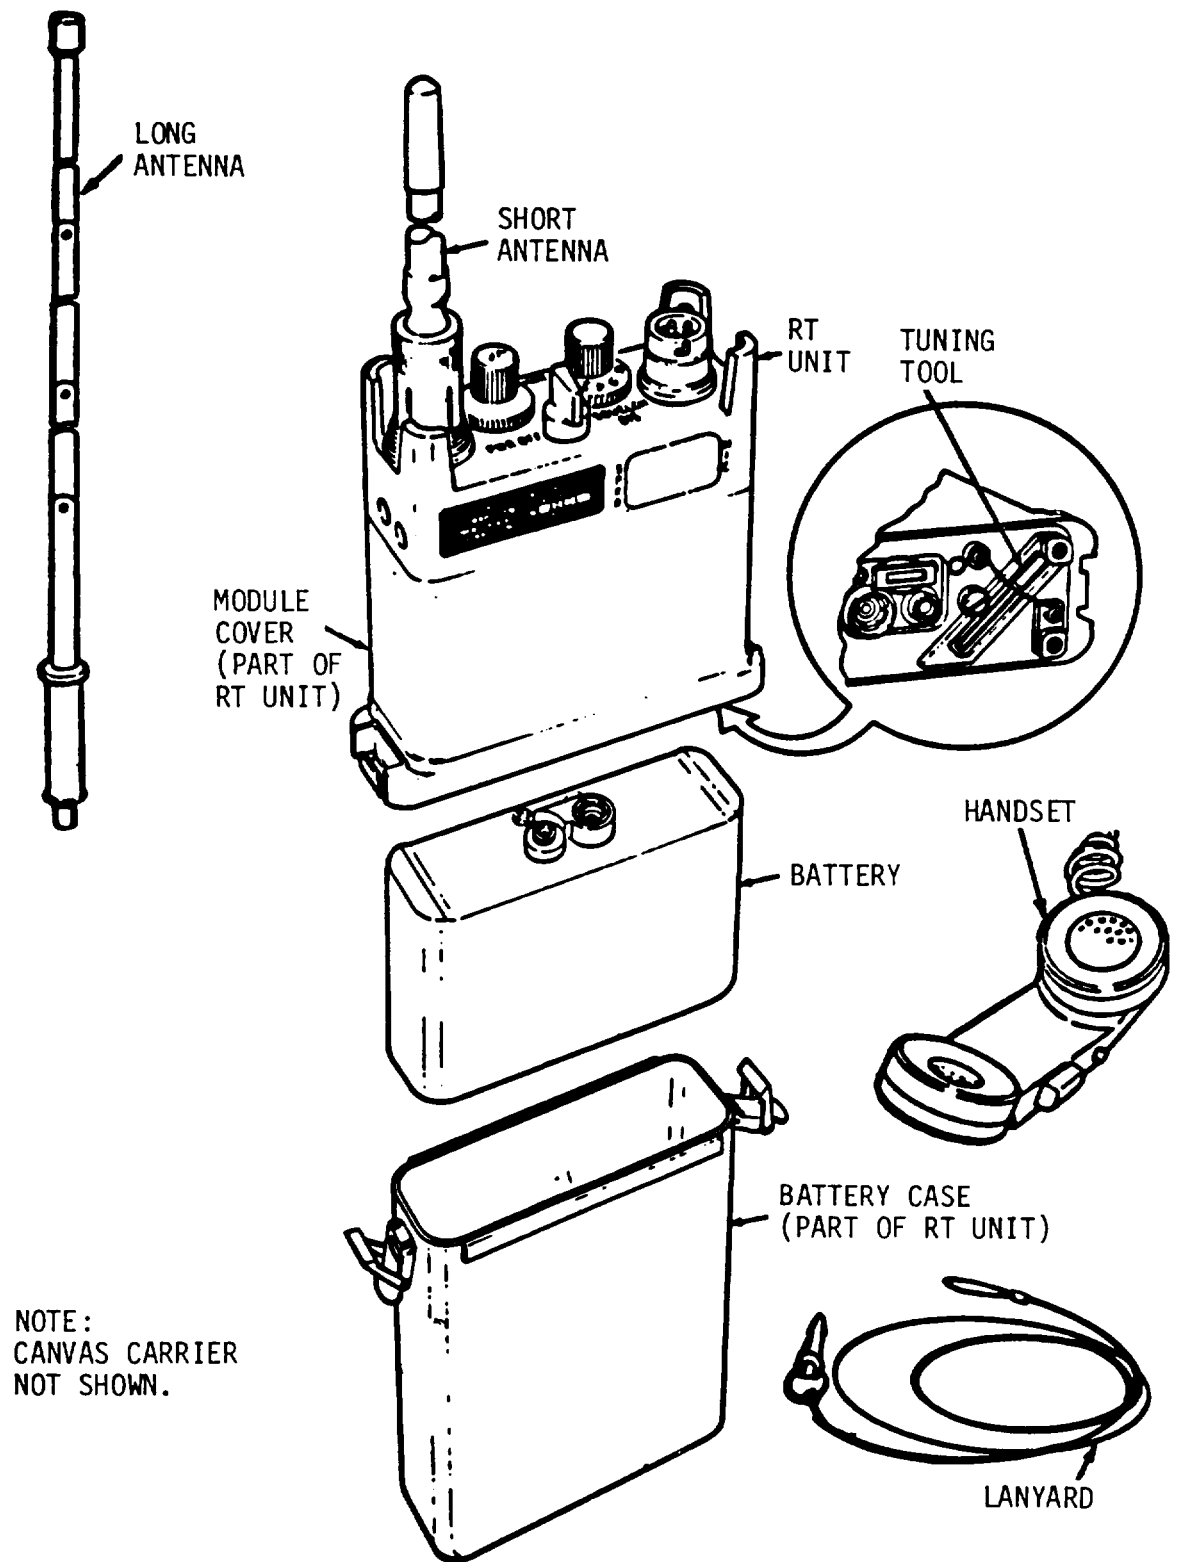

Figure 1-2. Radio Set Major Components.
Figure 1-2 shows the major components of the radio set. The radio set consists of the receiver-transmitter (RT) unit, a battery, a short antenna, a tuning tool, and a lanyard which attaches to the RT unit case. The RT unit contains the frame and panel assembly, two plug-in modules, and all necessary operating controls and connectors; the module cover, held by two captive screws to the chassis frame; and the battery case, which snaps onto matching connectors on the chassis frame. A long antenna, an H-250/U handset, and a canvas carrier are also provided as basic issue items for use with the radio set.